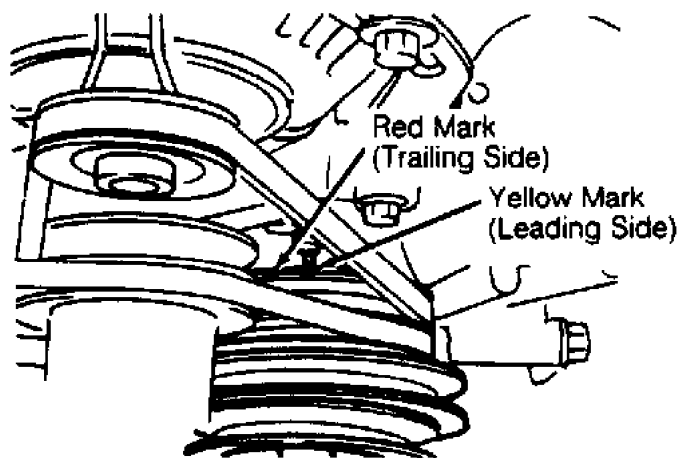

Fig. 2: RX7 Locating Ignition Timing Marks
2) If Yellow mark on pulley aligns with indicator pin, go to next step. See Fig. 2. See IGNITION TIMING SPECIFICATIONS - RX7 TABLE. If Yellow mark does not align with indicator pin, loosen Crank Angle Sensor (CAS) lock bolt. Rotate CAS until timing marks are aligned. Tighten lock bolt.